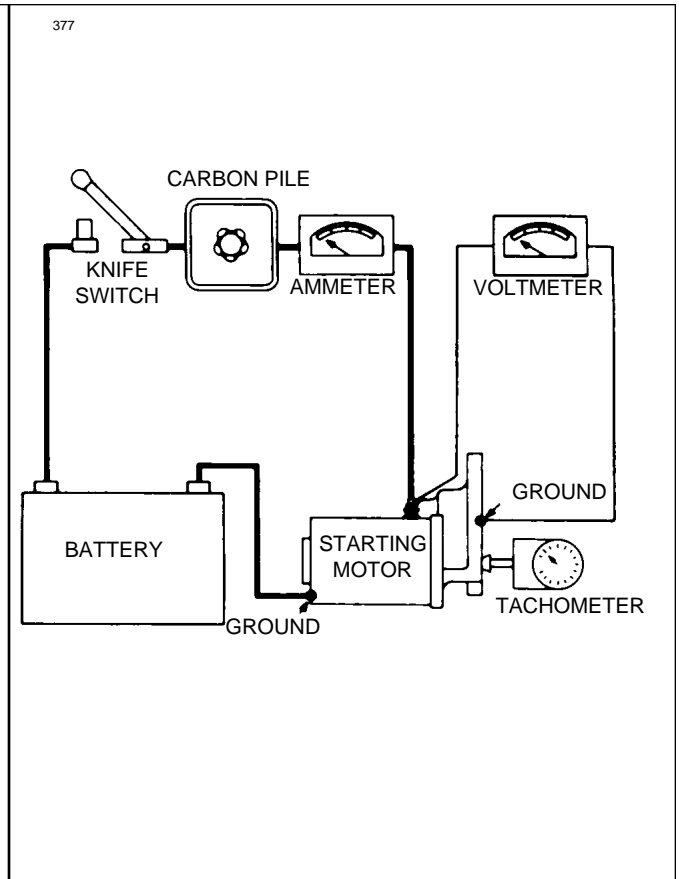

Figure 11-23 No Load Test Hookup
a. After the starting motor is reassembled, it should be tested to see that the no load current at a certain voltage is within specification as given in Paragraph 11-51. To make this test, connect as shown in Figure 11-23. If current is too high, check the bearing alignment and end play to make sure there is no binding or interference. Two or three sharp raps on the frame with a rawhide hammer will often help to align the bearings and free the armature.